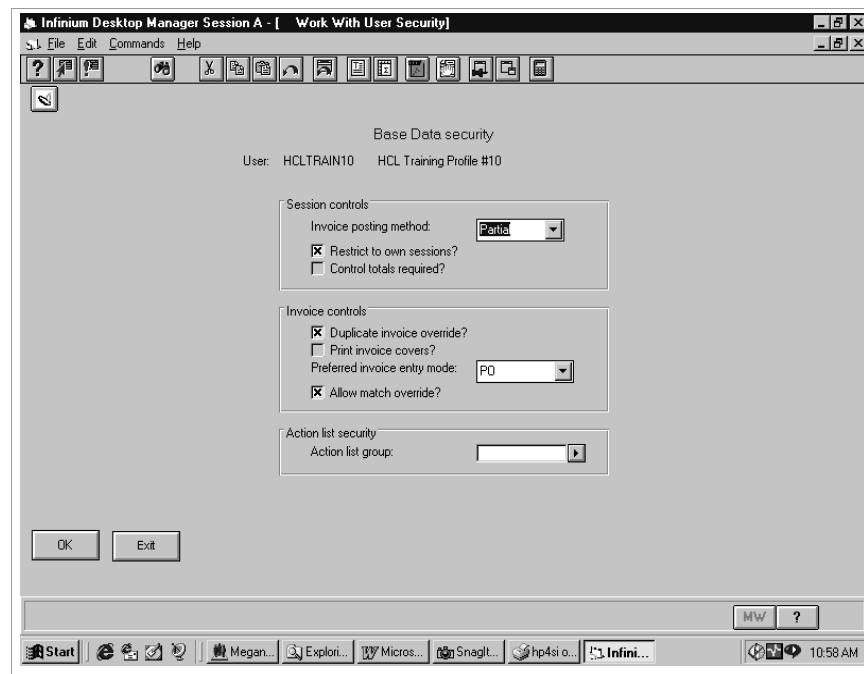

Figure 3-17: Work With User Security Base Data Security screen
- 5 Press Enter. The system displays the screen shown in Figure 3-17.